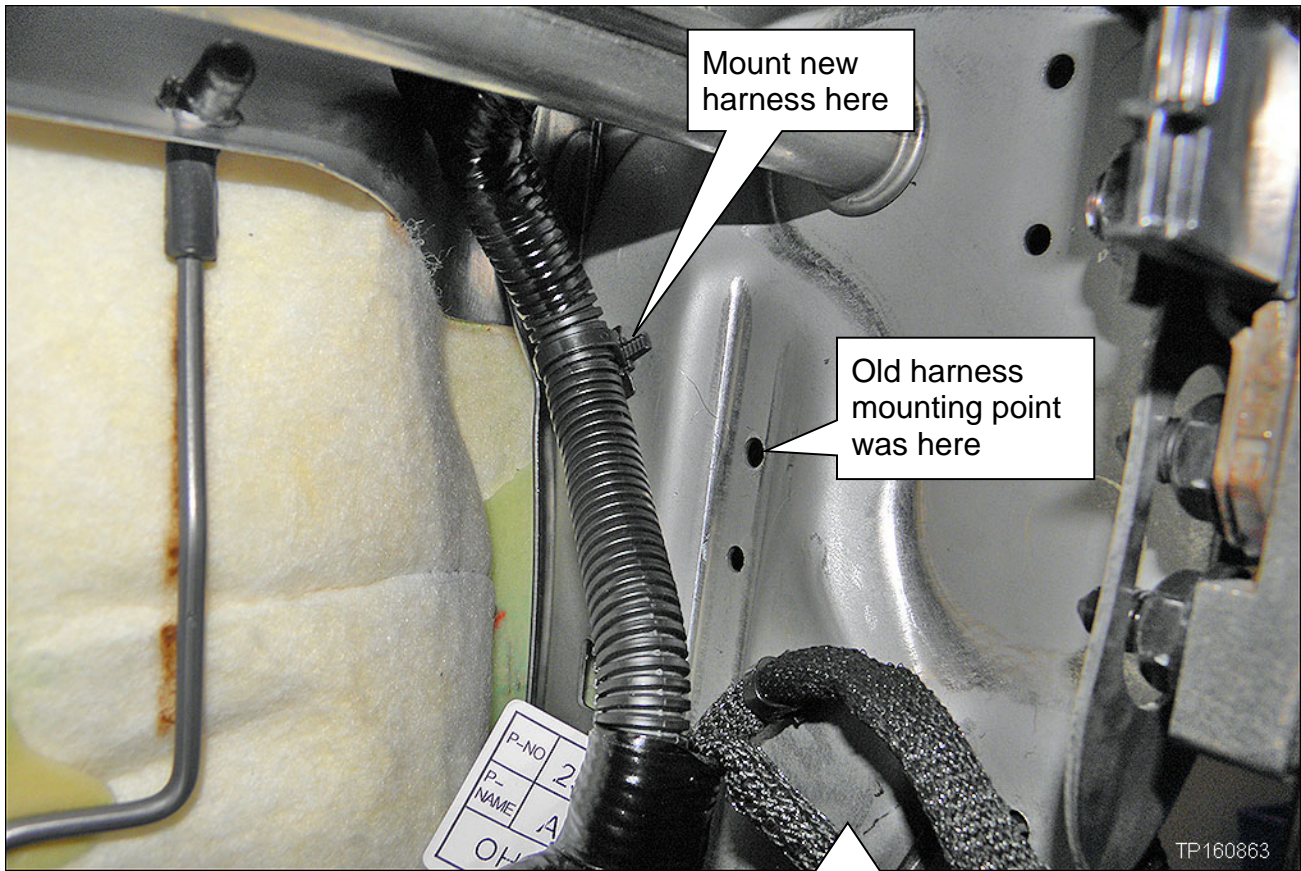

Figure 5
- **IMPORTANT:** There is one mounting clip that will need to be placed in a different location; it is shown in Figures 5 and 6 on page 8.